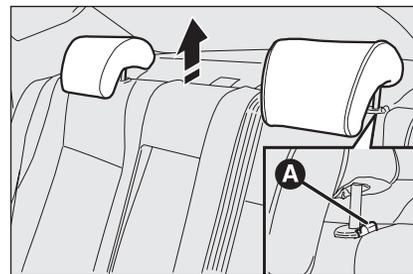

fig. 35
- press buttons **A-fig. 35** (set aside the two head restraint supports) then remove the head restraints by pulling them upwards.